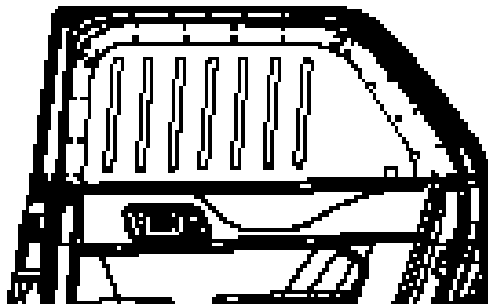

Fig. 1
1. From the inside of the door place the Barrier into the corresponding window opening with the lower flange resting on the top of the OEM Door Panel. (See Fig. 1).